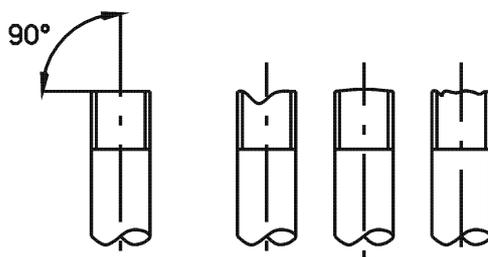

Fig. 23. Cutting the tube
- A. Cut the tube on which the flare must be performed with a tube cutter; make sure that the cut is perpendicular to the tube axis and is clean off debris (see Fig. 23).